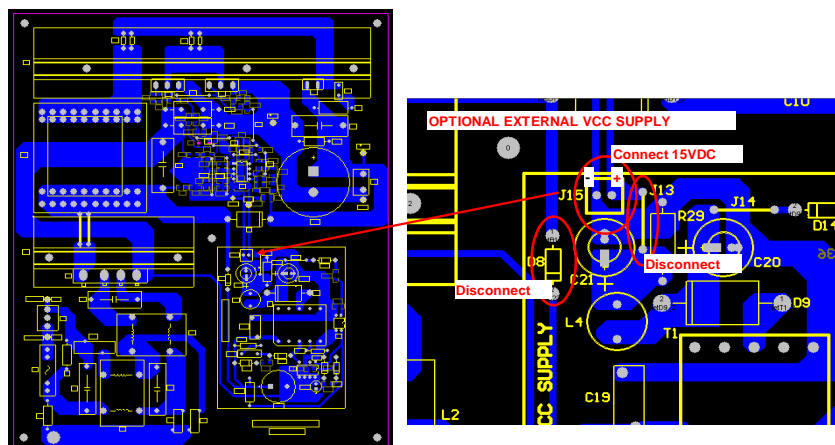

Figure 2: IRAC1152-350W external Vcc connection
- iii. Input connector J15 can be used for providing external DC supply to bias the VCC pin of IR1152; Pay attention to the polarity of the terminals in the connector as shown in Figure 2.